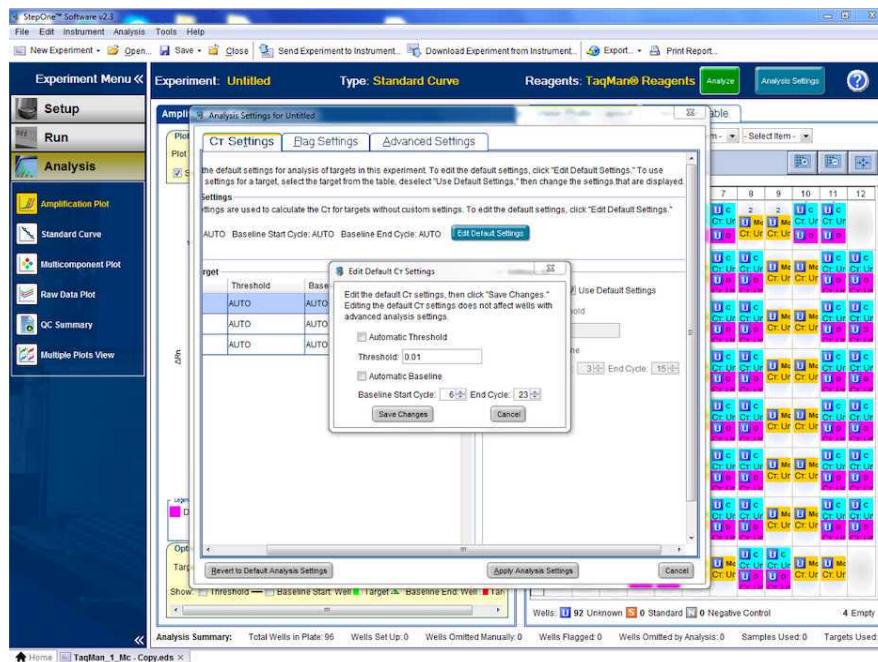

Figure 5. Editing default settings.
- On the top right, click on "Analysis settings" (**Figure 5**). Enter the threshold (usually 0.01) and the baseline for both C and D (usually 6-23). Then hit "Apply Analysis Settings" (we tend not to use the "auto" settings and instead edit them ourselves).